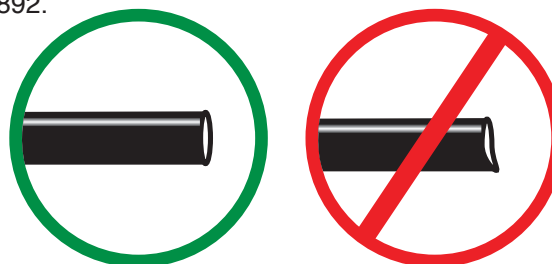

fig. 20
- a. Check the air line connection by deflating the spring and removing the line by pulling the collar against the fitting and pulling firmly on the air line. Trim 1" off the end of the air line. Be sure the cut is clean and square (see fig. 20). Reinsert the air line into the push-to-connect fitting.
2. If the preceding steps have not resolved the problem, call Air Lift customer service at (800) 248-0892.